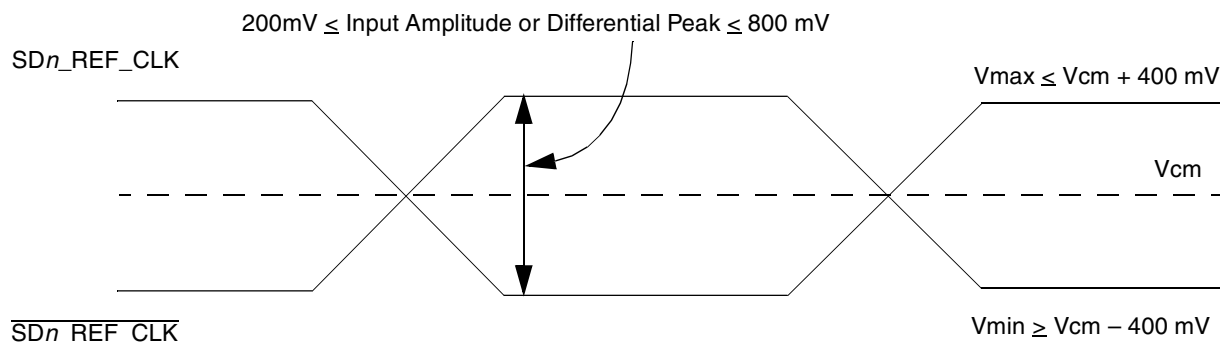

Figure 60. Differential Reference Clock Input DC Requirements (External AC-Coupled)
- For **external AC-coupled** connection, there is no common mode voltage requirement for the clock driver. Since the external AC-coupling capacitor blocks the DC level, the clock driver and the SerDes reference clock receiver operate in different command mode voltages. The SerDes reference clock receiver in this connection scheme has its common mode voltage set to SnGND. Each signal wire of the differential inputs is allowed to swing below and above the command mode voltage (SnGND). Figure 60 shows the SerDes reference clock input requirement for AC-coupled connection scheme.